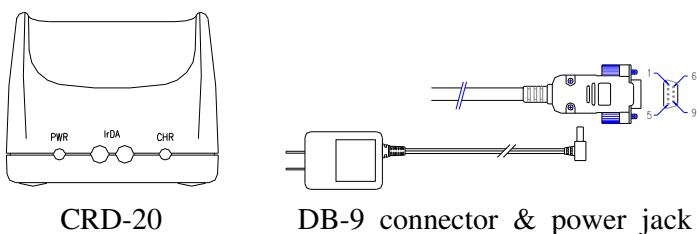

Fig 6
- b. Able to communicate with PC using a widely used RS-232 interface as shown in Fig 6.
There are 2 LEDs and 2 holes at the front bottom of the **CRD-20** as shown in Fig 6. The 2 LEDs are located on the left and right, whereas the two holes in the middle, each containing an IrDA element. The LED on the left is illuminated when power is on, and will not be illuminated if the power adaptor is not connected to the AC output, or the 9VDC jack is not inserted into the RS-232 connector. The LED on the right is illuminated when a battery is put in the back slot of the cradle for recharge. It will remain illuminated as long as recharging is going on until a full charge is achieved. It flashes intermittently, however, when the battery slot is empty, indicating that the cradle is detecting the presence of the battery. The LED at the upper-right corner of the terminal is illuminated when the terminal is placed on the cradle for a recharge, and will be off when a full recharge is achieved.